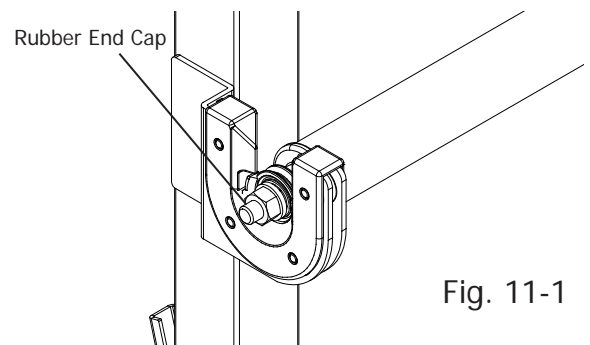

Fig. 11-1
11-1: Slide one (1) rubber end cap onto the end of each bolt sticking out of the pole ends, as shown in Fig. 11-1. If the poles are assembled properly there should be approximately 3/8"-1/2" of metal threads showing beyond the ends of each pole.